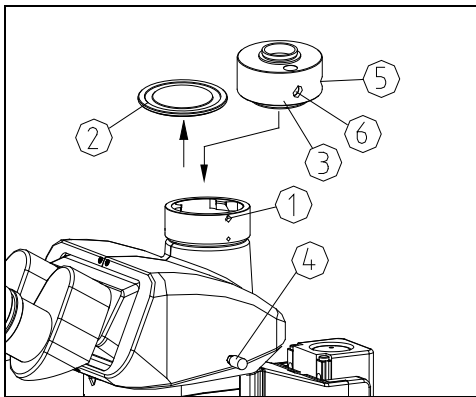

Fig.23
- Loosen the lock screw (1) of trinocular head, and remove the dust-cover (2) (See Fig. 23).
- Remove the dust-covers of the c-mount adapter (3). Insert the c-mount adapter into the trinocular head as shown in the figure and tighten the lock screw (1).
- Connect the CCD or camera to the adapter (3).
- For binocular observation, after the image is clear, pull the light path selection lever (4) out, to observe the image. If the image is not clear, loosen the lock screw (5), and adjust the focusing screw (6) until the image is clear, then tighten the lock screw (5).